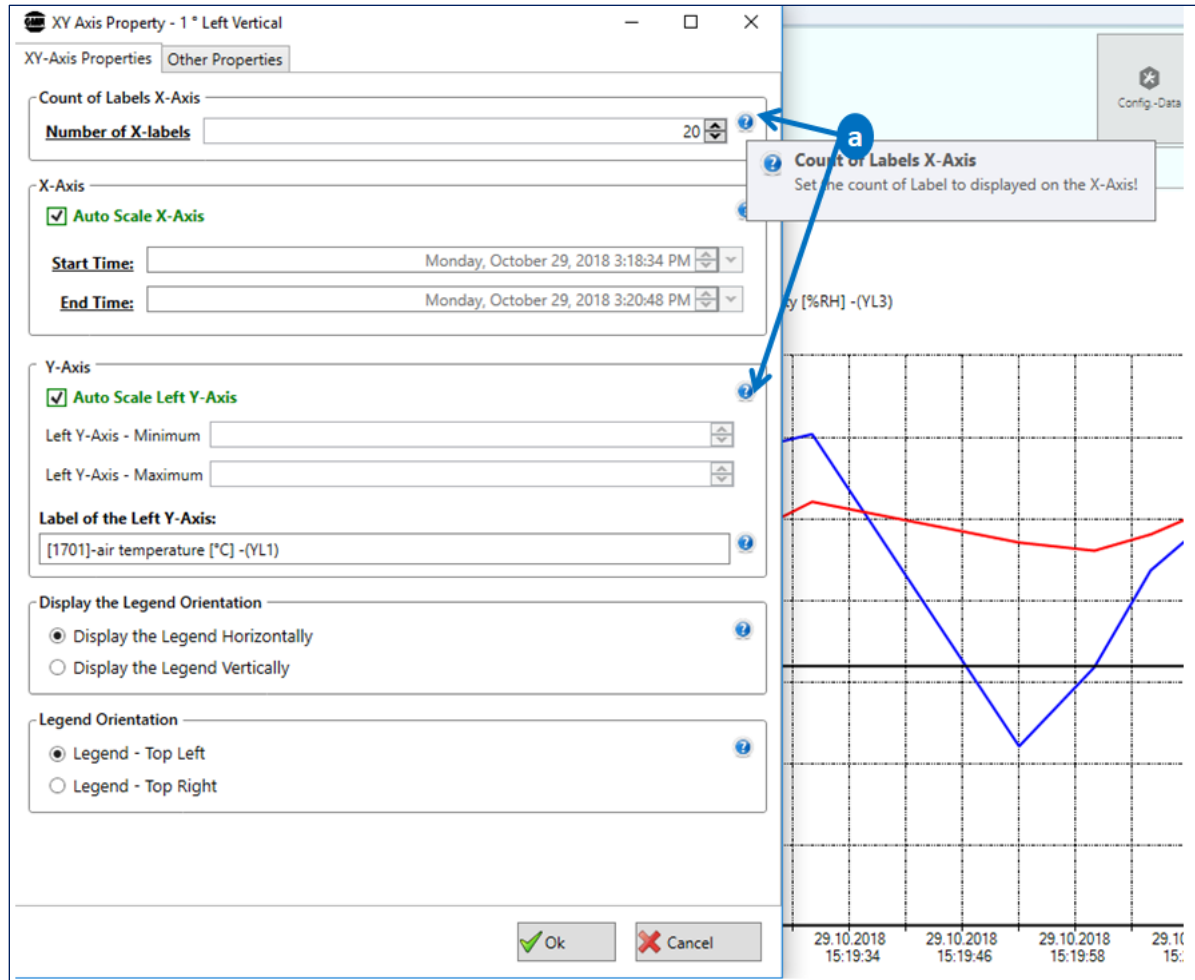

Figure 10-9: editing the properties of the first vertical axis (YL1)
**“X-Y Axis Properties”**: click on this item, and the dialog box shown below will appear (fig. 10-9).